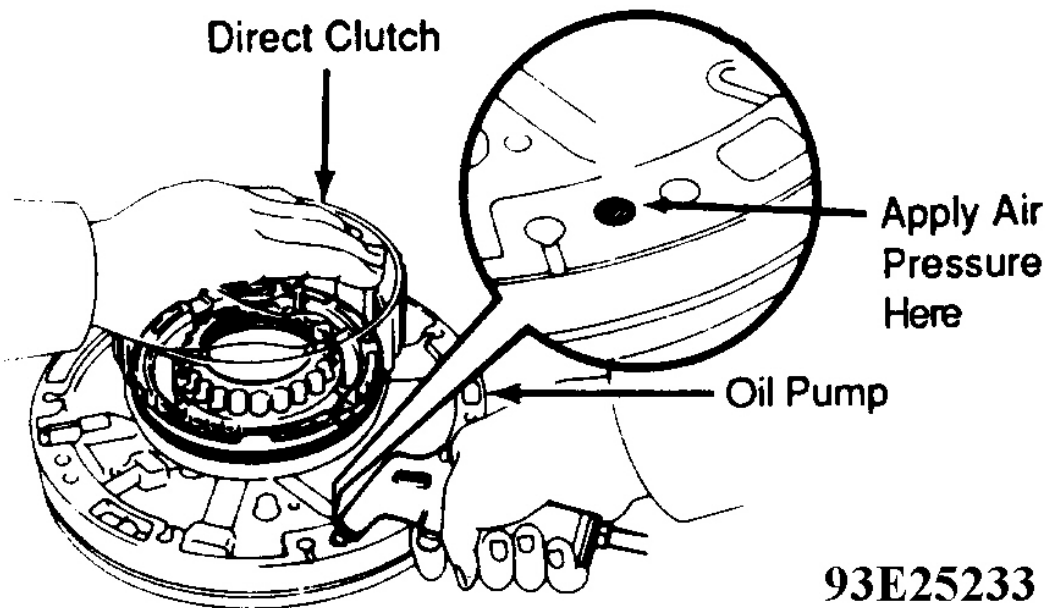

Fig. 20: Removing OD Direct Clutch Piston
4. Place oil pump on torque converter. Place OD direct clutch on oil pump. Hold clutch piston with hand, apply compressed air to oil hole of oil pump to remove direct clutch piston. See **Fig. 20** . Remove 2 "O" rings from clutch piston.